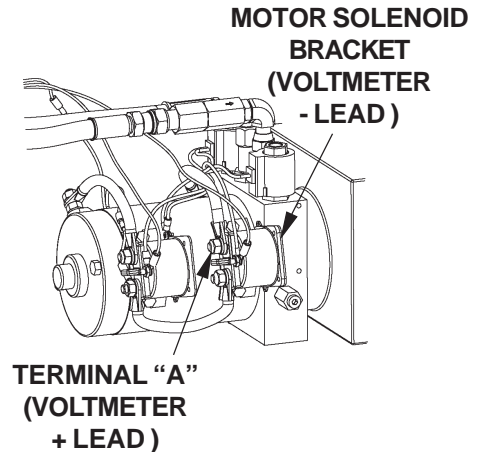

FIG. 7
1. Connect voltmeter between Motor Solenoid Terminal "A" and Bracket (**FIG. 7**) to verify that battery power is getting to "A". Recharge the battery if voltmeter indicates less than 12.6 Volts DC.